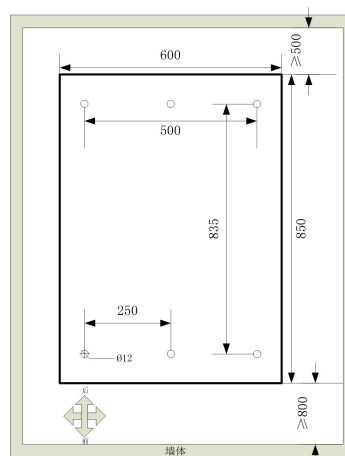

Fig. 3-4 Hole size of 160/180/200 kVA
Step 1: Determine the installation position and mark the positioning on the installation surface according to the hole location size diagram. The size diagram of 80/100/120kVA UPS is same as the diagram of 160/180/200 kVA UPS, take 160/180/200 kVA UPS as an example shown in Fig. 3-4.